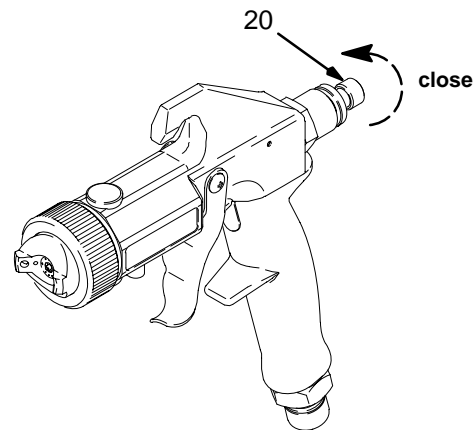

Fig. 8
3. If further gun fluid adjustment is needed, turn fluid adjustment knob (20) clockwise to reduce volume of fluid output. See Fig. 8.